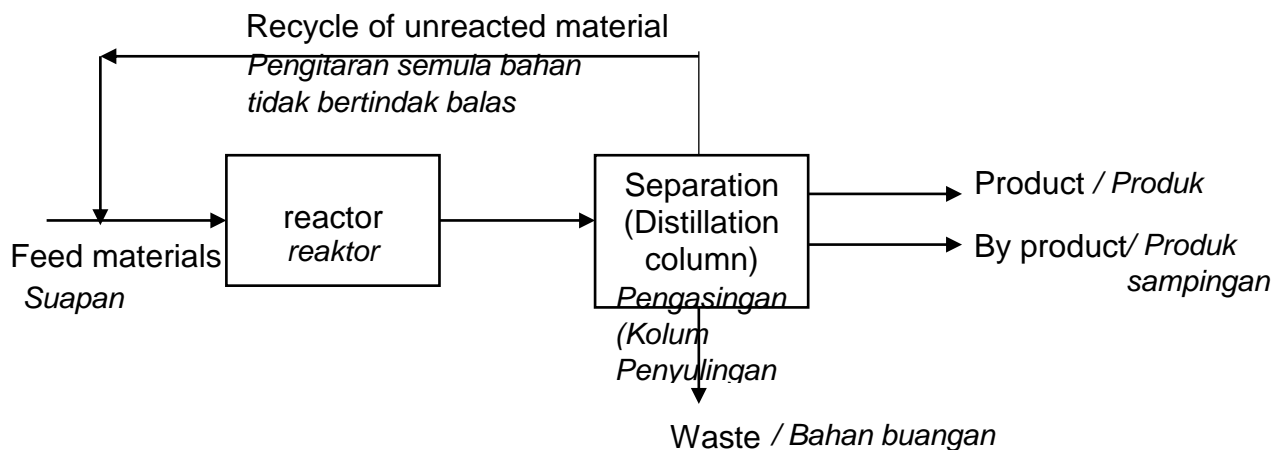

Figure 2: Block Flow Diagram (BFD) of polymerization process
- (2). (a). Referring to **Figure 2**, illustrate a Process Flow Diagram (PFD) of the polymerization process.